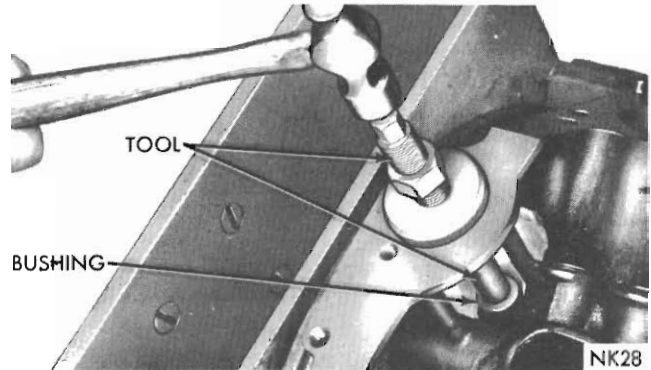
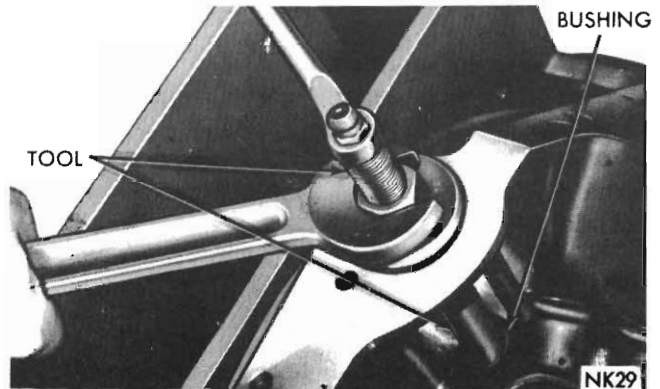

Fig. 27 - Installing distributor drive shaft bushing (Using Tool E9C65H)
Fig. 28 - Burnishing distributor drive shaft bushing (Using Tool E9C65H)
- (1) Slide new bushing over burnishing end of Tool E9C65H and insert the tool and bushing into the bore, as shown in Fig. 27.
- (2) Drive bushing and tool into position using a soft hammer.
- (3) As the burnisher is pulled through the bushing by tightening the puller nut, the bushing is expanded tight in block and burnished to correct size (Fig. 28). Do not ream this bushing.